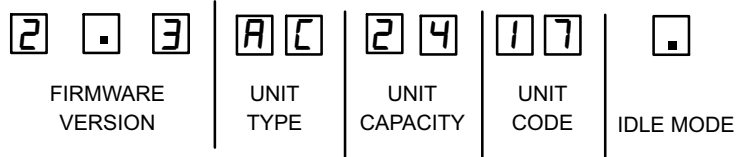

Figure 5. Outdoor Control 7-Segment Unit Status Displays
If the single-character display shows three (3) horizontal lines, the unit selection code needs to be programmed. Press and hold the button until the *P U* menu option is displayed, release button. The single-character display displays the selected mode per example in figure 5. When the desired unit selection code appears, press and hold the button until it stops flashing, then release.